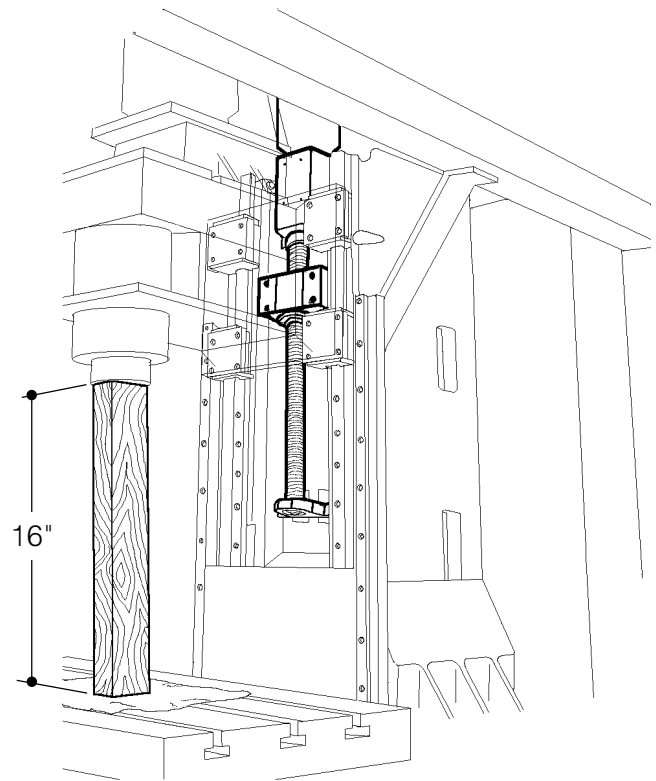

Fig. 13-4 Block spindle head before removing bearing sleeve.
5. Place the **wood block** beneath the spindle head and lower the spindle head until it is resting on the block (See Fig. 13-4.).